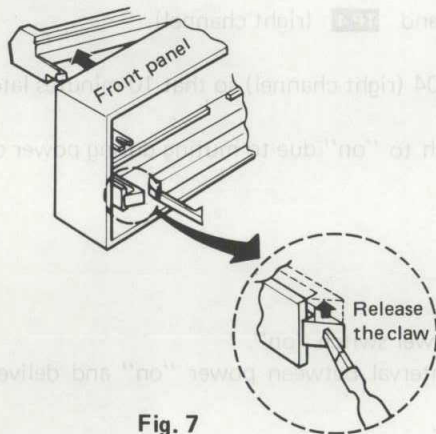

Fig. 7
1. Release the ornament claws from the front panel and take out the ornament. (Fig. 7)